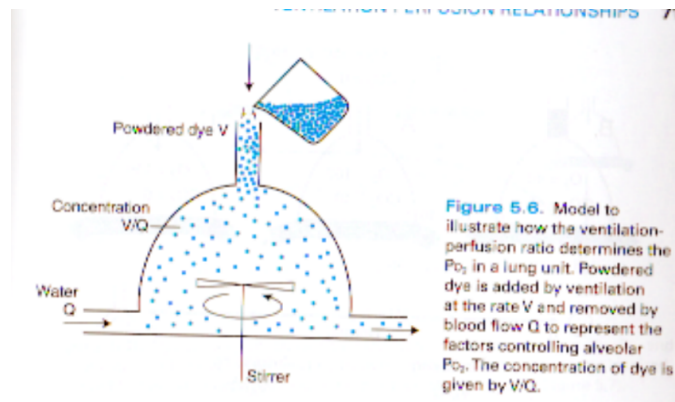

Figure 1. Model to illustrate how the V/P ratio determines the partial pressure of oxygen in a lung unit.
- Components of the model as shown in Figure 1
- Other critical components not shown in Figure 1